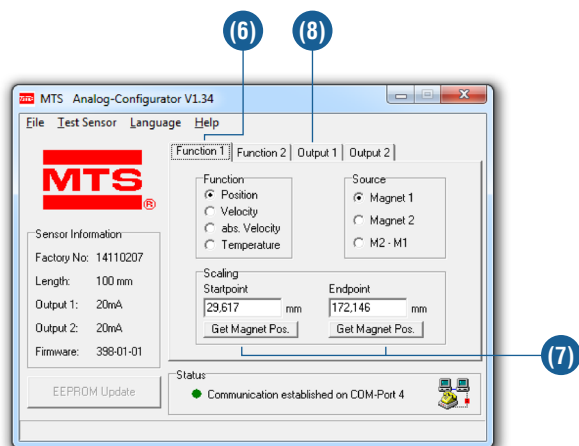

Fig. 28: Example of tab controls
- (6) Via tabs control **Function 1**, the analog sensor output can be allocated to the position or speed of the magnet. With position measurement, the measuring range with start point and end point is determined here.
- (7) The actual magnet position can be stored via buttons **Get Magnets Pos.** (Note: On sensors with 2 magnets, value storage always relates only to the first magnet).
- (8) Allocation of the relevant analog output signals to sensor functions position or speed measurement is via index card Output 1 (fig. 28).